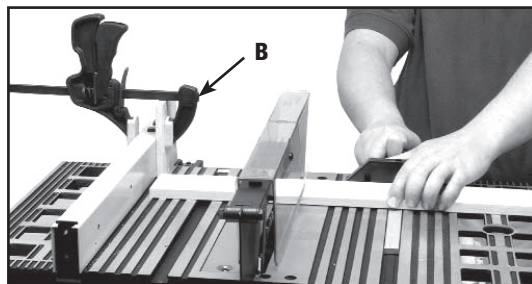

Fig. 39B
When cross-cutting a number of pieces to the same length, a block of wood (B) Fig. 39B can be clamped to the fence and used as a cut-off gauge as shown in Fig. 39B. It is important that this block of wood always be positioned in front of the saw blade as shown. Once the cut-off length is determined, secure the fence and use the miter gauge to feed the work into the cut. This block of wood allows the cut-off piece to move freely along the table surface without binding between the fence and the saw blade, thereby lessening the possibility of kickback and injury to the operator.
**WHEN USING THE BLOCK (B) FIG. 39B, AS A CUT-OFF GAUGE, IT IS VERY IMPORTANT THAT THE REAR END OF THE BLOCK BE POSITIONED SO THE WORK PIECE IS CLEAR OF THE BLOCK BEFORE IT CONTACTS THE BLADE.**